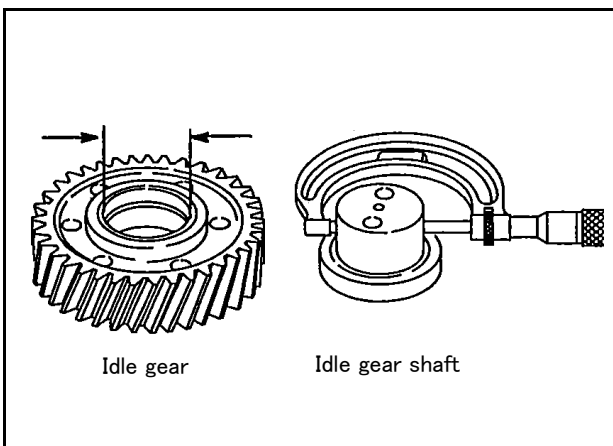

Fig.8-Checking Idler Gear And Shaft
2. If backlash exceeds 0.2 mm check idler gear bearing and shaft for wear, Fig.8.